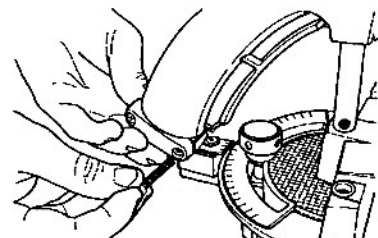
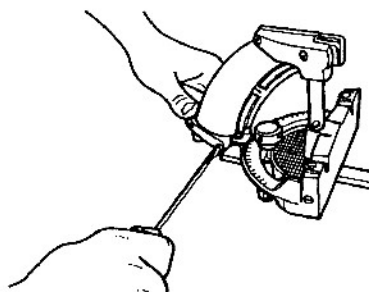

Fig. 62
Fig. 63
71. Re-install the screw and thin washer, as demonstrated in Fig. 62. The washer can go on either side of the indicator mount. Use a small Phillips screwdriver to re-tighten the screw, as shown in Fig. 63.